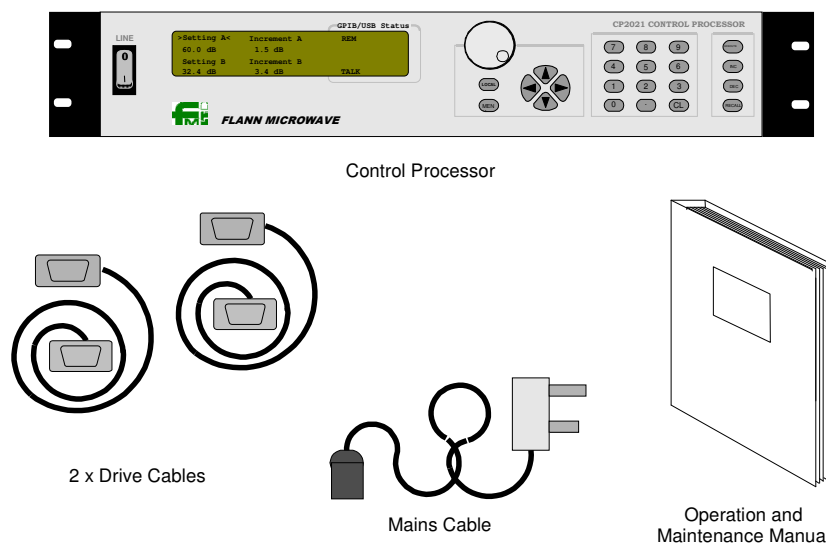

Figure 1: Contents of Shipping Container:
2. Verify that the shipping container contains everything shown in Figure 1.